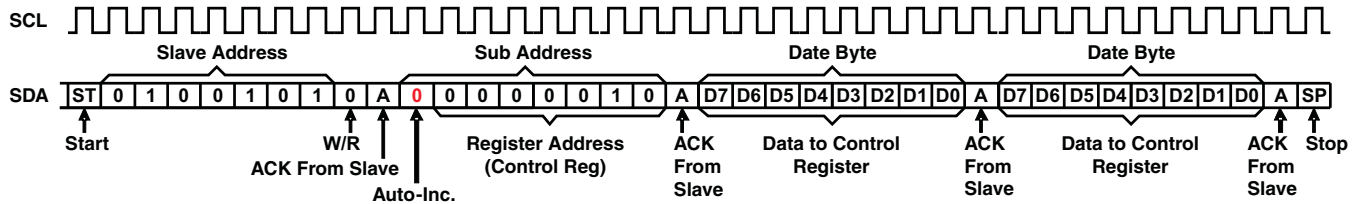
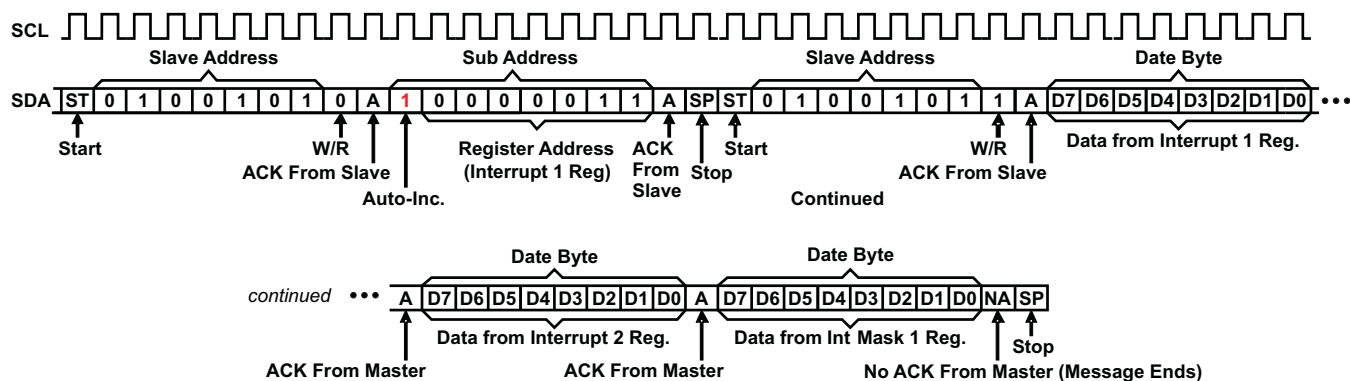

Figure 10. Repeated Data Write to a Single Register
Figure 15. Burst Data Read from Multiple Registers – Split Mode
Data is transmitted to the TSU6721 by sending the device slave address and setting the LSB to a logic 0 (see Figure 10 for device address). The command byte is sent after the address and determines which register receives the data that follows the command byte. The next byte is written to the specified register on the rising edge of the ACK clock pulse.
**Notes (Applicable to Figure 10 – Figure 15):**